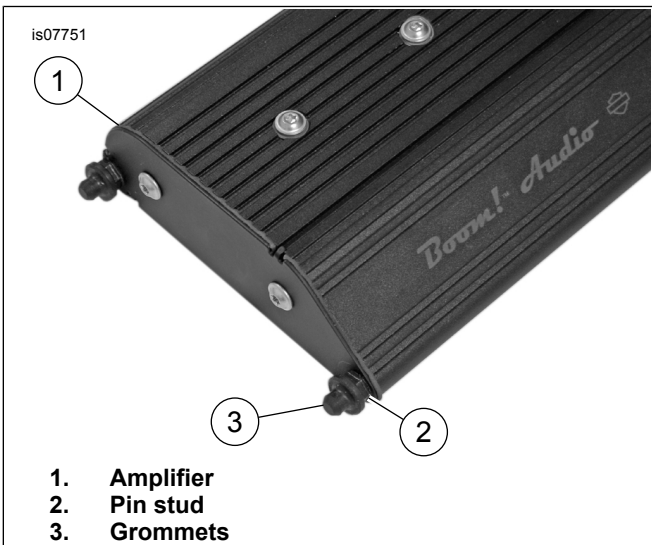

Figure 7. Amplifier Pin Studs
12. See Figure 7. Install the amplifier pin studs in the amplifier. Tighten.